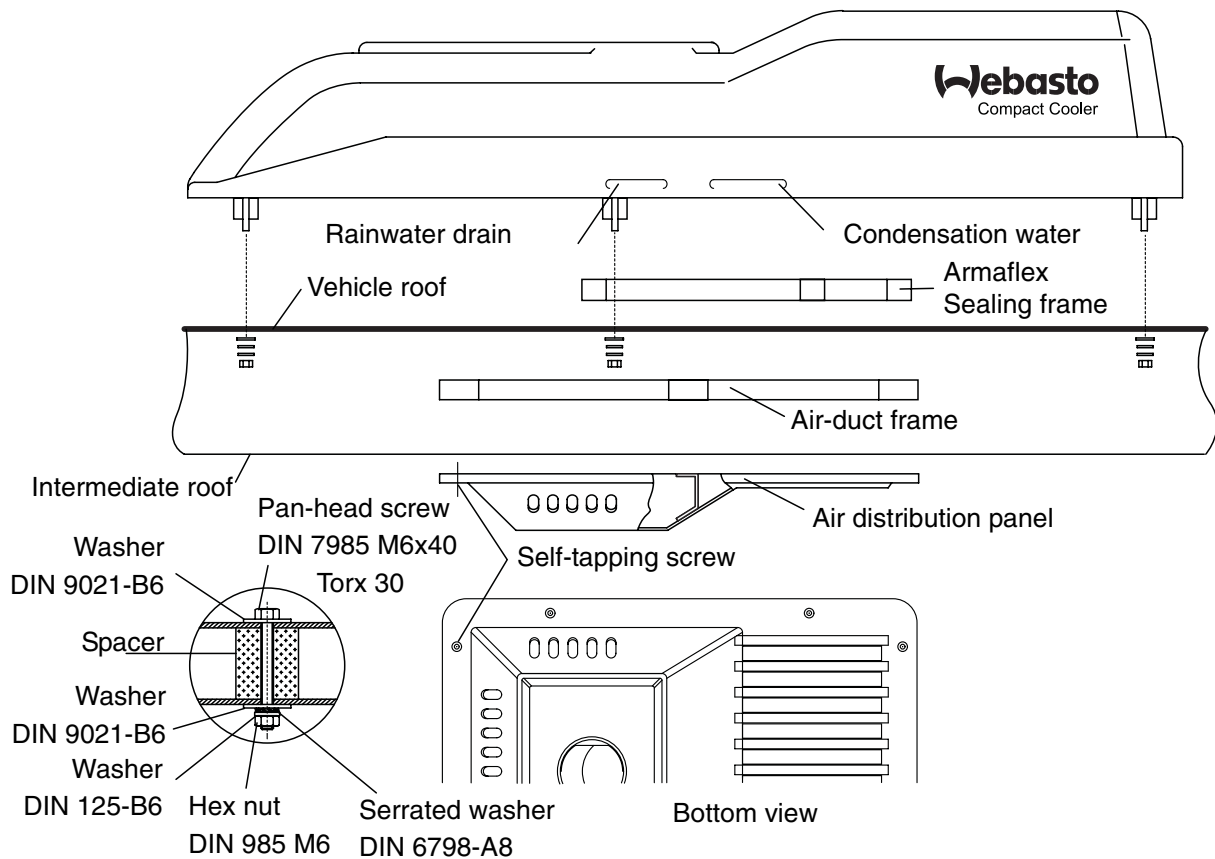

Fig. 4.4
- Prepare inner roof so that the air-distribution panel can be installed under the roof (see Fig. 4.4).
- b) Place the baseplate on the roof (sealing frame) and align it. Place spacers under the eight fastening points and insert the nine M6 bolts (with washers) into the holes (Fig. 4.4).
- d) Position the air distribution panel as shown in Fig. 4.4 and secure it with ten self-tapping screws to the intermediate roof or to suitable self-made brackets if necessary. If the optional recirculating-air filter has also been ordered, it must be inserted in the intake area of the air distribution panel.